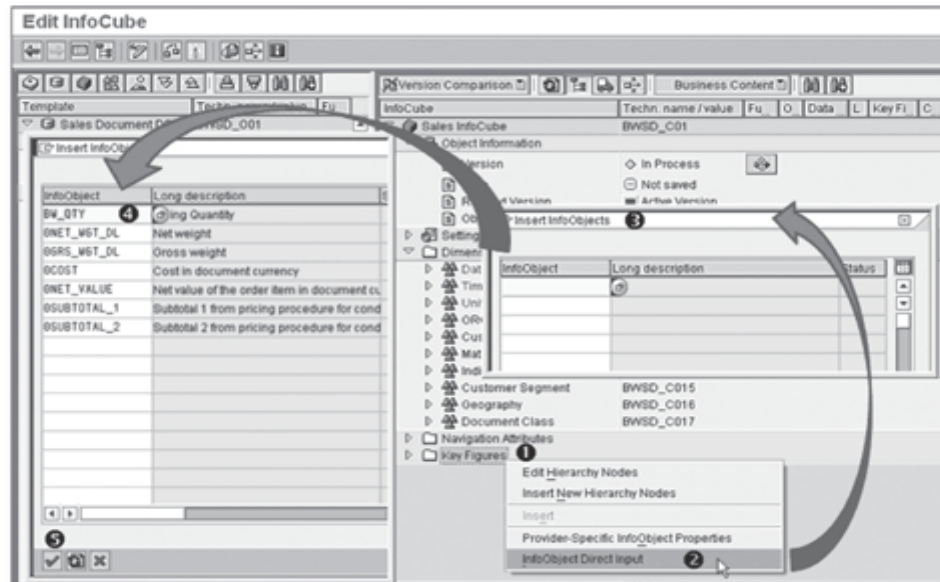

Figure 5.19 Adding Key Figures to an InfoCube
Now we must add key figures to the InfoCube. Here again we have two options to perform this task: the template method or the direct input method. Select the key figures context menu shown in ❶ of Figure 5.19, and then select INFOOBJECT DIRECT INPUT (❷).